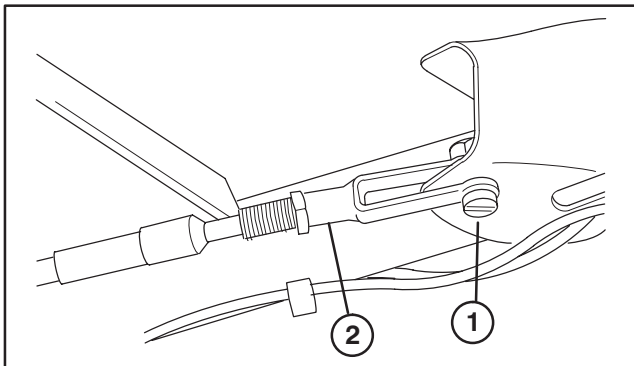

Figure 36
1. Remove screw and nut securing cable clevis to brake lever (Fig. 36).